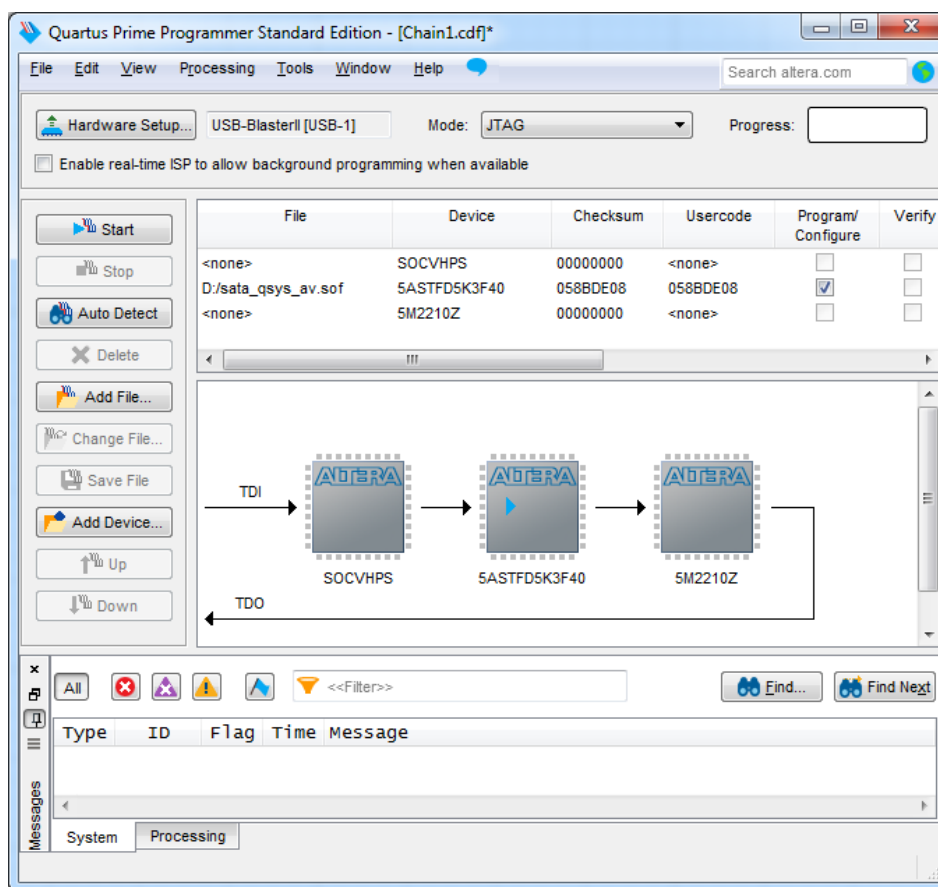

Figure 1-13 Programmer Environment
- Open QuartusII Programmer and download SOF file to FPGA board, as shown in Figure 1-13.